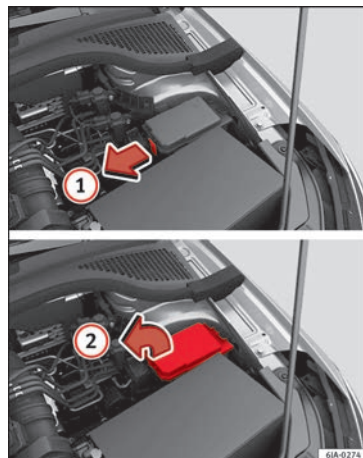
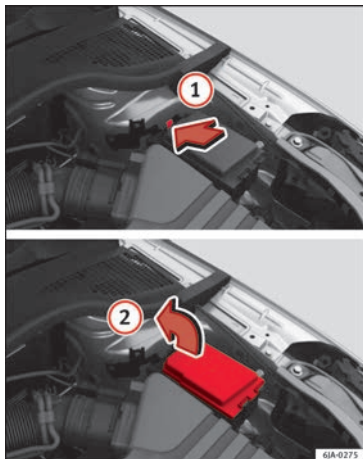

Fig. 86 In the engine compartment: fuse box cover - 1st variant
Fig. 87 In the engine compartment: fuse box cover - 2nd variant
- Press lid locking clip upwards in the direction of the arrow **1** » **Fig. 86** » **Fig. 87**.